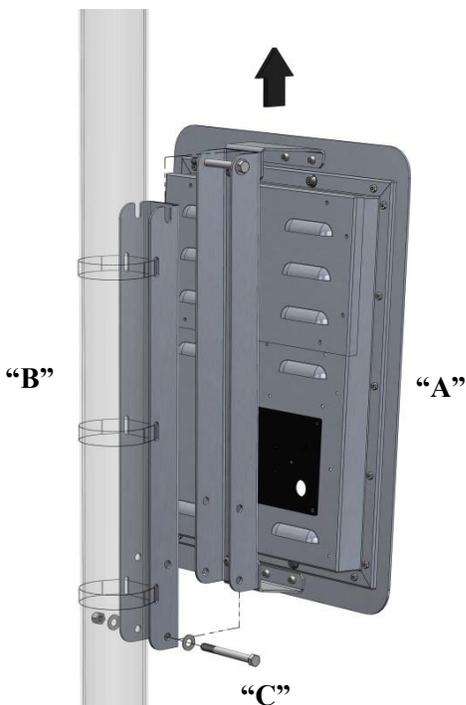

Figure 5-2. Connecting DFB Sign to Bracket
Assemble the DFB sign (A) to mounting bracket (B) as shown in Figure 5-2. *Be careful to keep fingers clear of the brackets as they come together since they may form a pinch point. Do not over-tighten the 2 mounting bolts (C).* They act as a pin, and are not intended to compress the mounting bracket. Take care when handling the edges of the sign and bracket, especially when attaching the sign onto the bracket.